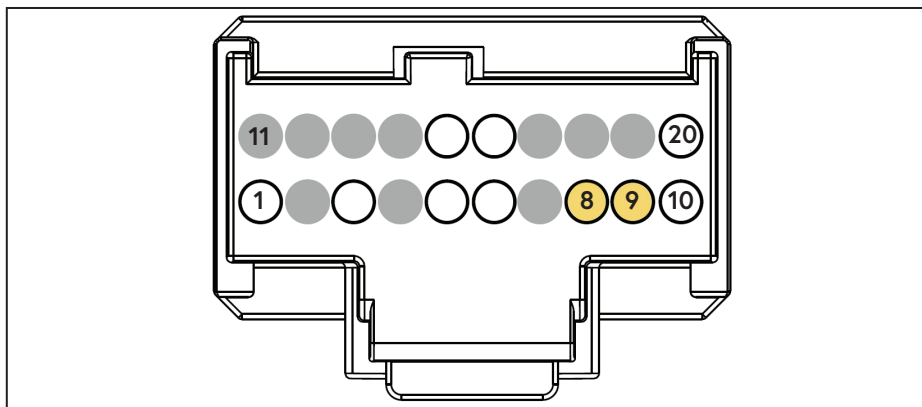

Figure 108 — PAM connector
- ☐ Using the supplied Posi-Taps (see page 69), connect the blue wire from the throttle control to the wire at pin 9 (blue wire at time of writing) of the PAM connector (Figure 108).
- ☐ Using the supplied Posi-Taps, connect the grey wire from the throttle control to the wire at pin 8 (white wire at time of writing) of the PAM connector (Figure 108)